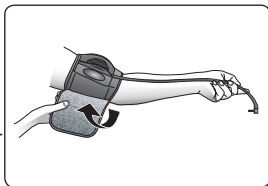

Fig. 2
3. Secure the cuff closed; for proper positioning, the tube should follow the inside length of the arm, over the main artery Fig 2.